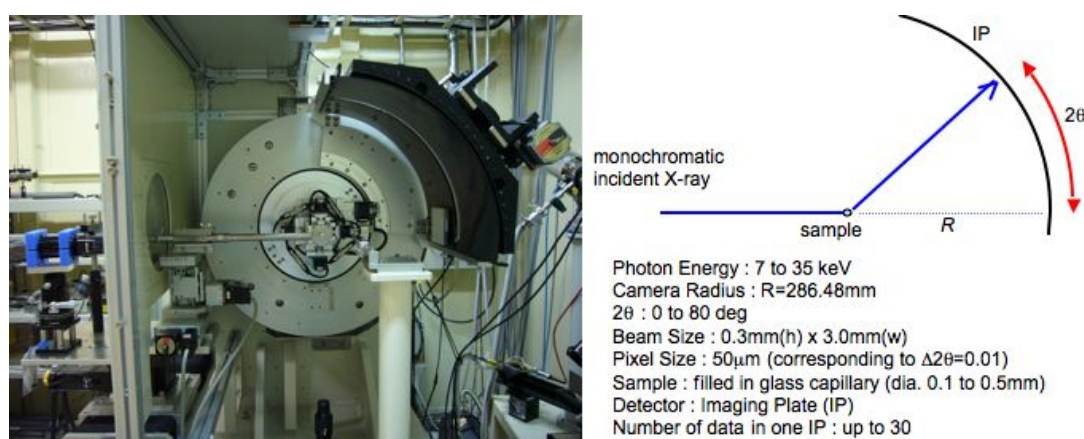

Fig. 2. The large Debye-Scherrer camera at BL19B2.
designed for engineering science researches. Target of this beamline is to promote the industrial application of the synchrotron radiation. The beamline has three experimental hutches for several kinds of experiments, including X-ray imaging, X-ray diffraction, and small-angle X-ray scattering. X-ray powder diffraction experiments are performed using the large Debye-Scherrer camera (Fig. 2) at the second experimental hutch. This camera was designed for accurate structure analysis. The basic specification of the large Debye-Scherrer camera installed at BL19B2 is the same as the one at BL02B2 of SPring-8. Imaging plates (IP) are used as 2-dimensional detectors. Users can change the sample temperature in the range of 90–1000 K by using a heater and a cryostat. These apparatuses utilize flowing nitrogen gas to control the sample temperature.